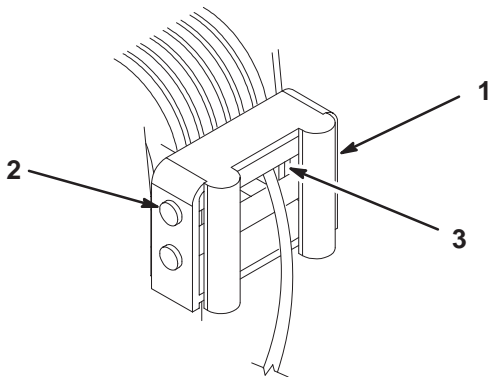

Figure 6
2. Remove the pin in the roller fairlead and slide the top roller out (Fig. 6).
3. Lay the cable and hook on the lower roller, install the top roller, and secure it with the pin (Fig. 6).